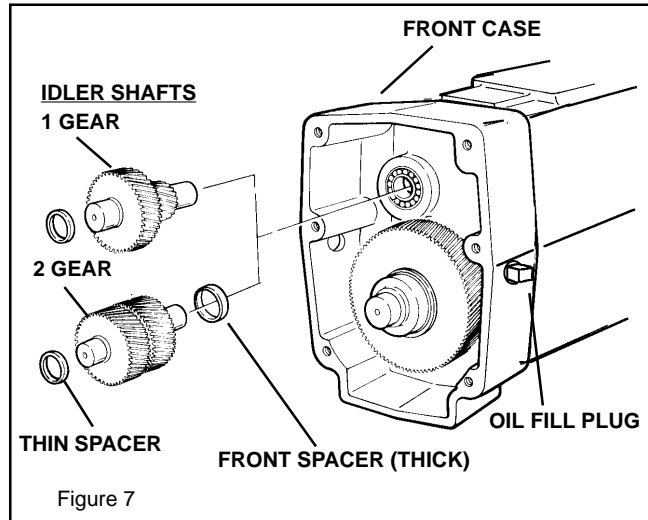

Figure 7
1. Place the front spacer on the long end of the idler shaft. Install the idler shaft assembly in the front case assembly. *There are two different idler shaft assemblies used depending on ratio of ISR.* (Figure 7)
5. Seat rear case to front case. (Figure 7)
Fill unit with Microplate 140 gear oil. (Use reducer fill hole located on either side). Figure 7